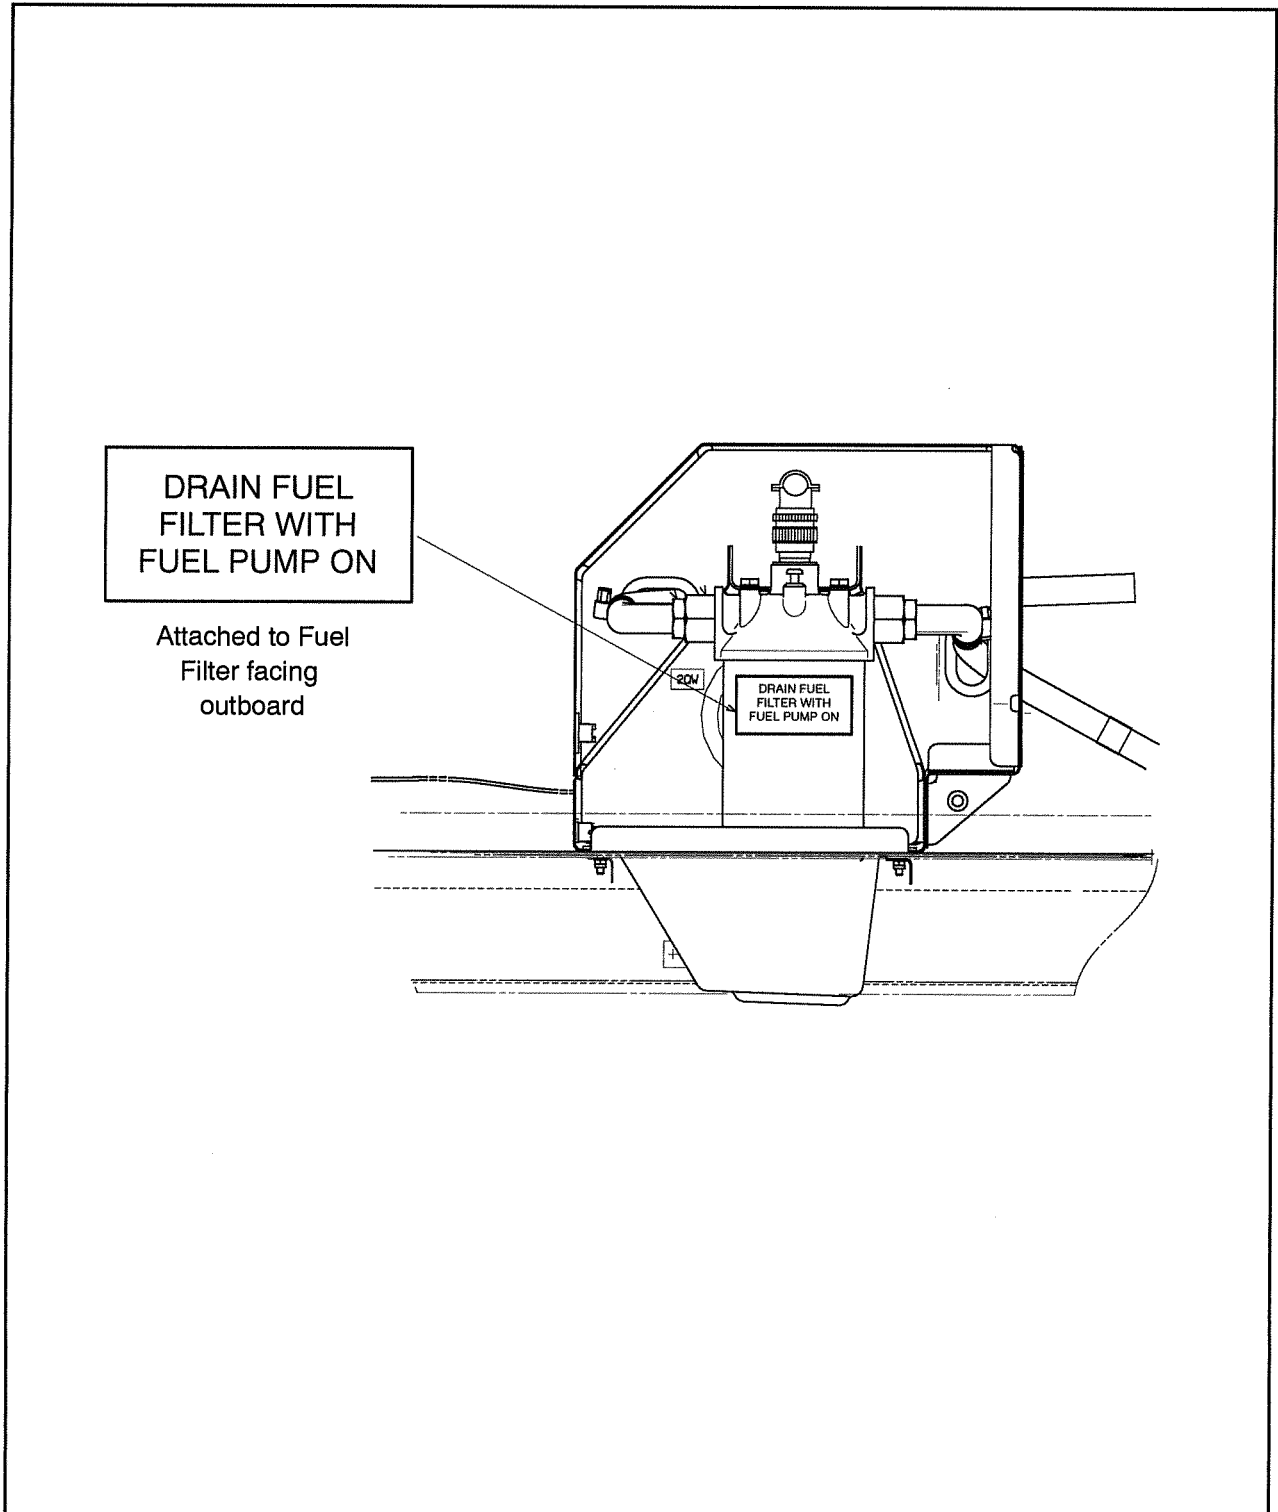

Figure 7 Typical label location on the Fuel Filter
- e) If a new fuel filter has been installed, ensure ident label, shown in Figure 7 is installed facing outboard after fuel filter installation.